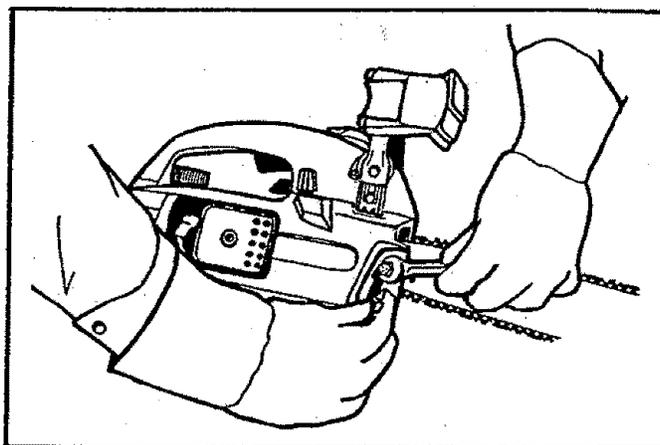

Figure 12
- Hold the Guide tip of the Guide Bar up and push the Adjusting Lever forward just until the chain does not sag below the Guide Bar. Figure 12.